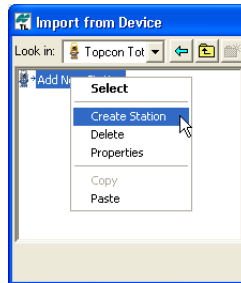

Figure 2-24. Creating a New Station
3. To add a device, right click or double click the icon 'Add New Station' and select *Create Station* (Figure 2-24) from the pop-up menu.